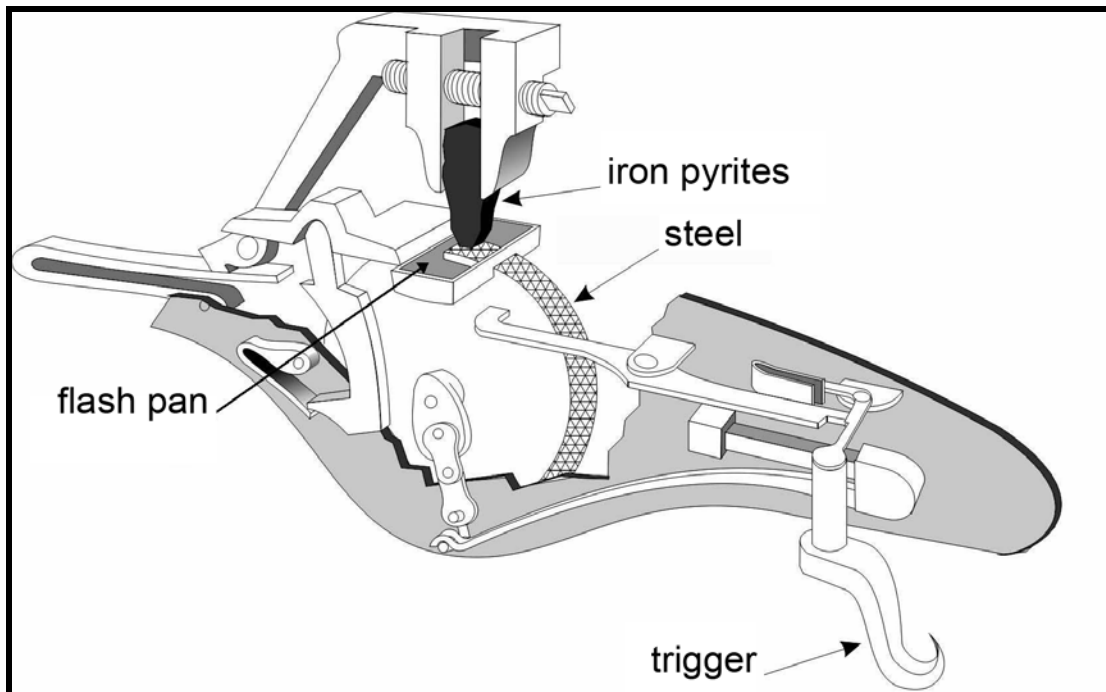
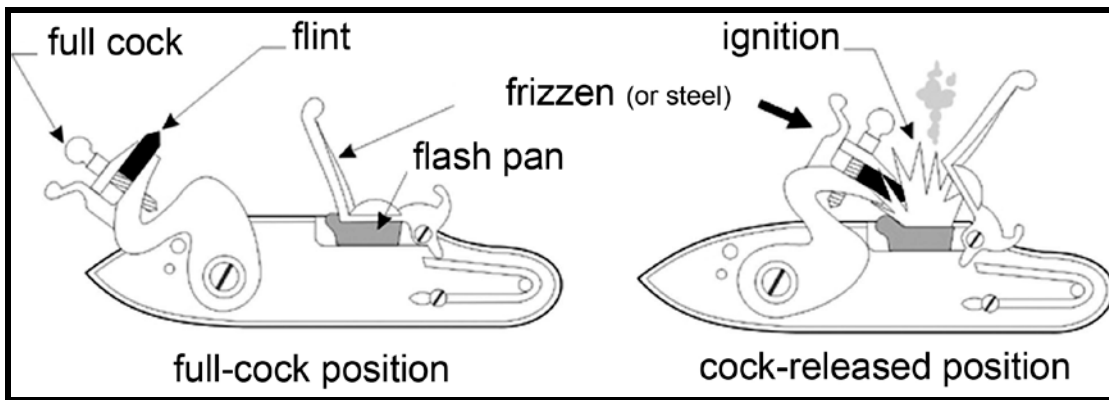

Figure 3. Wheel lock mechanism
Figure 4. Flintlock mechanism
Two improved firing systems were developed in the 1600s. These were the wheel lock (Figure 3) and the flintlock (Figure 4). The wheel lock worked much like a modern cigarette lighter. The spring was wound up with a key. The wheel lock mechanisms were complex and expensive to make. Also, winding was slow and the spring often failed.
1. The flintlock (Figure 4) has an ignition mechanism similar to the wheel lock. It produced its spark by striking a flint against steel. Since it weighed less and was simpler and cheaper to make, it soon became more popular.